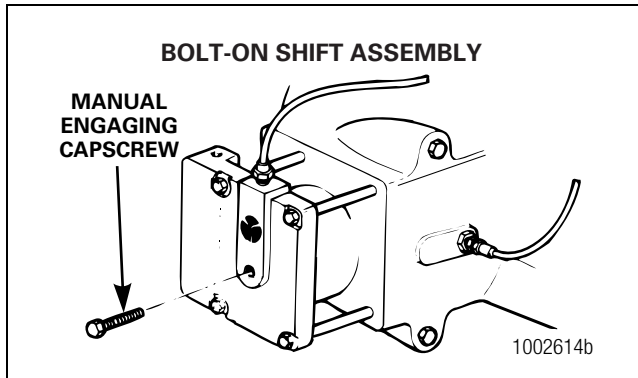

Figure 11.7
- C. Install the manual engaging capscREW into the threaded hole in the center of the cylinder. Figure 11.7.